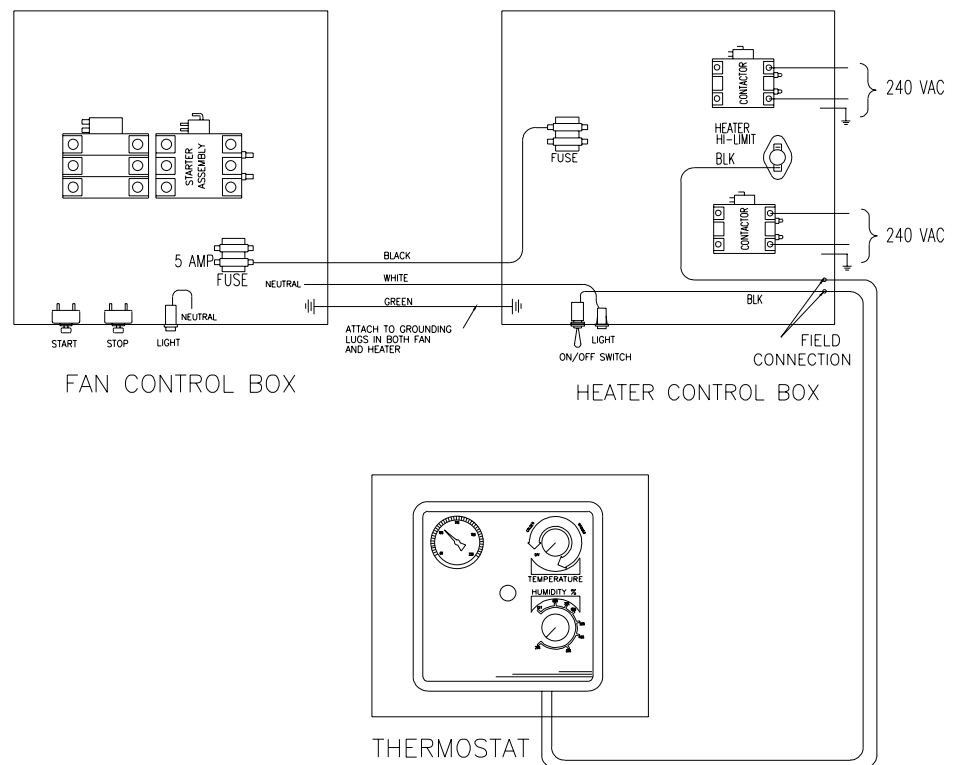

Figure 4: Electric heater wiring to fan unit.
1. Make field connection of heater power cord to 5 amp fuse block in fan as shown in Figure 4.
Figure 4: Use a #6 or approved size bare copper ground wire. Install a 5/8" diameter 8' long copper-clad ground rod, 2' away from the foundation and 1' below the surface of the ground or in accordance with local requirements.